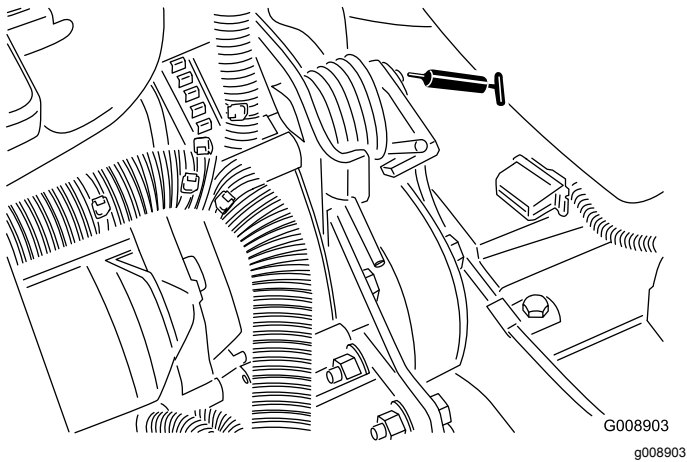

Figure 58
- Belt tension pivot (Figure 58)